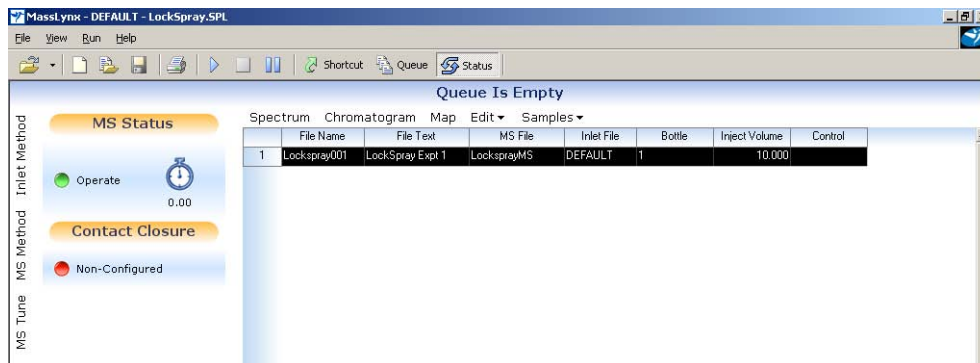

Figure 4-1 Sample List
4. In the Sample List in the main MassLynx window, enter values in the File Name and File Text columns as shown in Figure 4-1.